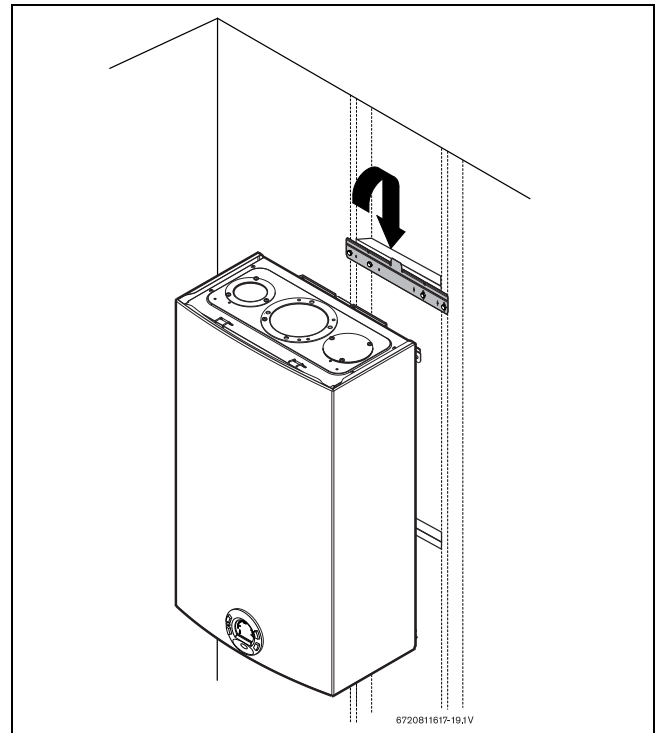

Fig. 32 Mounting the heater
- ▶ Hang the appliance on the bracket, see fig. 32, page 26.